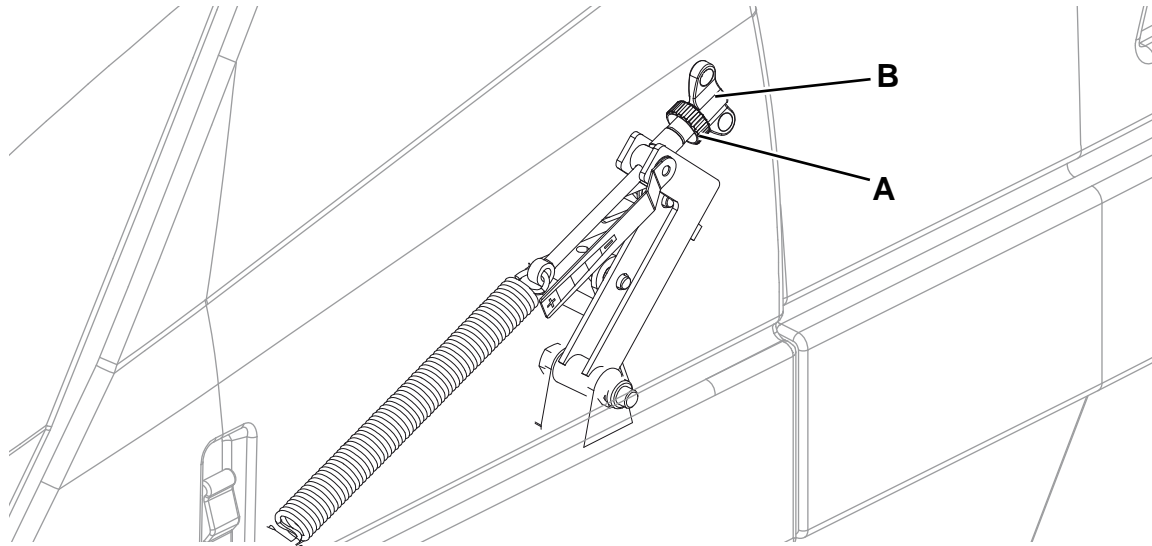

Figure 3
3. Turn the ignition key (66) and start the machine.
4. Lower the main broom with the lever (53) and let it run for 1 minute.
7. To adjust, open the engine compartment hood (1) by using the unlocking push-button (25), loosen the knob (A, Fig. 3) and operate on the main broom adjuster (B) by considering the following: